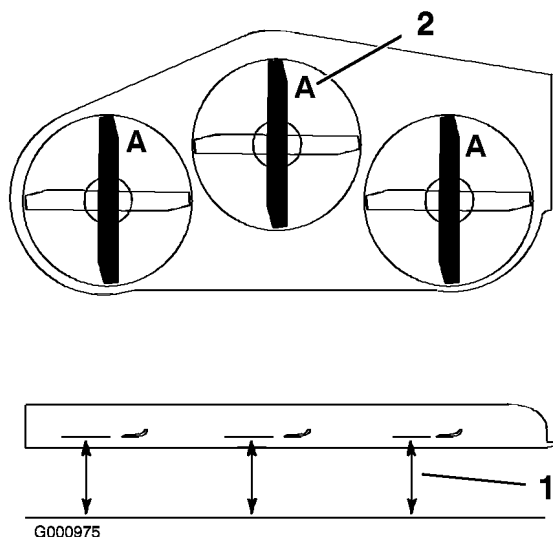
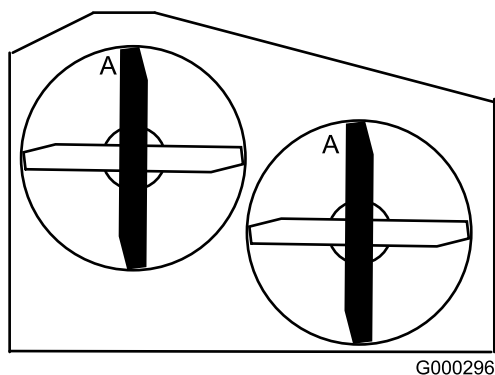

Figure 87
Figure 88
- With the machine on level surface, position one blade front-to-rear. Measure at **A** and from level surface to the cutting edge of the blade tips (Figure 87). For 36 inch mower decks use Figure 88.